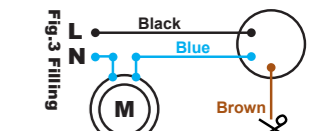

Fig.3 Filling
- Filling: (Fig.3) when black and blue wires are used, the circuit closes when float is down and opens when the float is up. Note: the brown wire must be insulated.